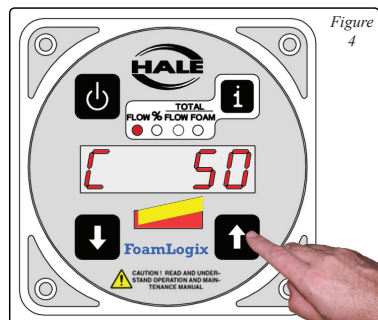

Figure 4
- The display shows the water flow rate. Refer to the complete product manual for the rate unit settings; i.e., GPM, LPM, etc. (See Figure 4.)